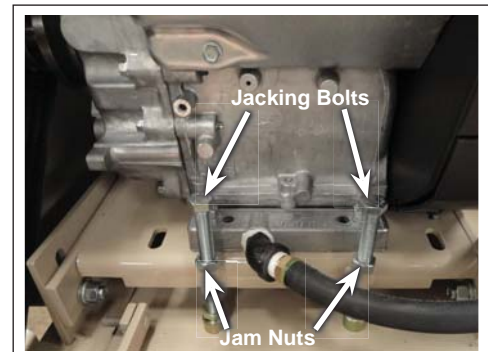

Figure 8
- Loosen engine/motor mounting hardware slightly. (Figure 8)